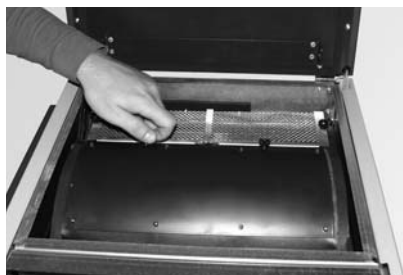
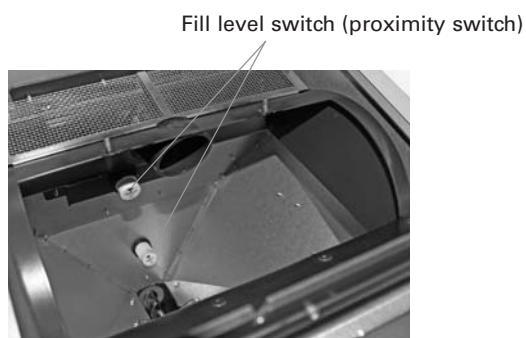

Fig. 138 Removing the knurled screws
Fig. 139 Folding open the inspection cover, removing dust
- Remove both knurled screws (Fig. 138) and fold open the inspection cover (Fig. 139).